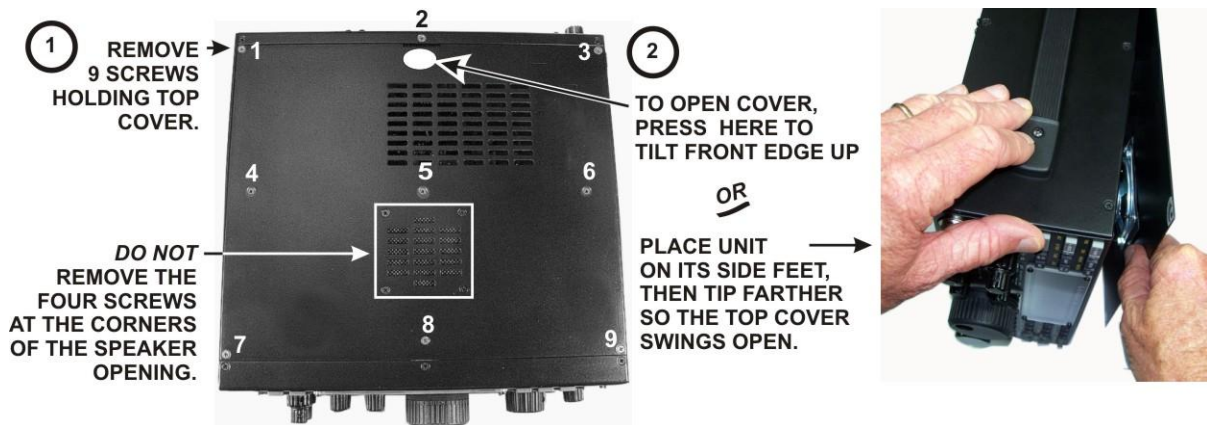

Figure A-1. Removing the Top Cover.
□ Remove the top cover as shown in Figure A-1. As you lift the cover off unplug the speaker wire that connects to the KIO3 board in the left rear corner of the K3S or K3. If you have the K144XV 2-meter option installed, slip the speaker wire under the chassis stiffener bar where it passes over a depression in the top of the K144XV module.